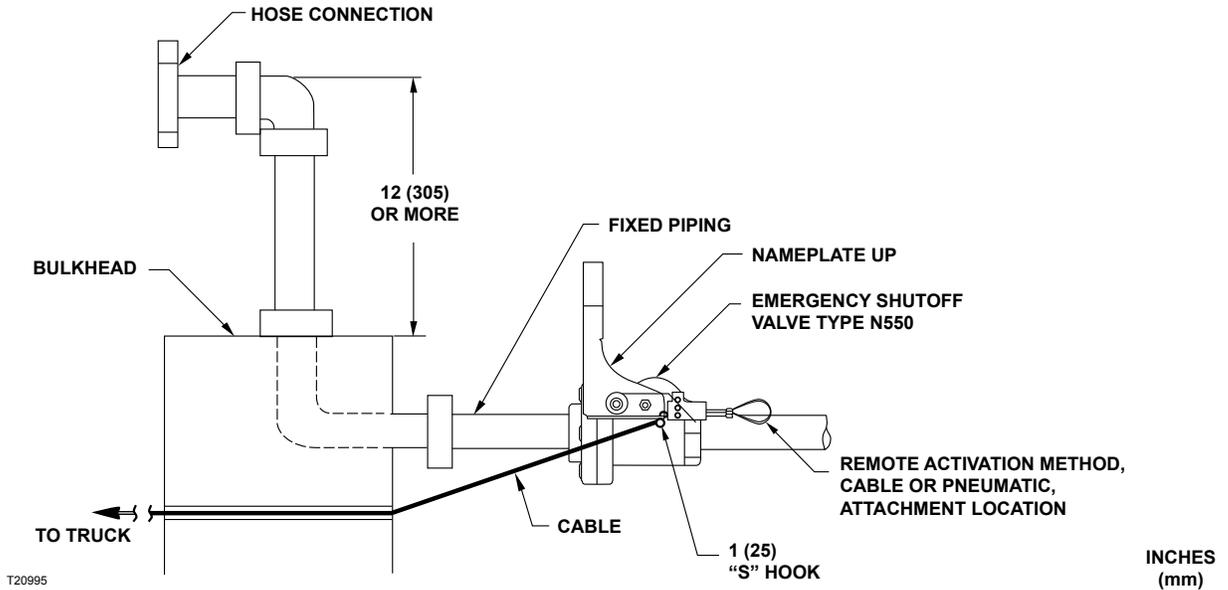

Figure 5. Motion Release Cable Installation (Optional)
1. Connect a suitable release cable such as stainless steel aircraft cable to a standard “S” hook. Attach the “S” hook to the Type N550 handle as shown in Figure 5.
2. The cable should run through the bulkhead just below and to the side of the pipe. The cable should be in line with the operating lever, refer to Figure 5.